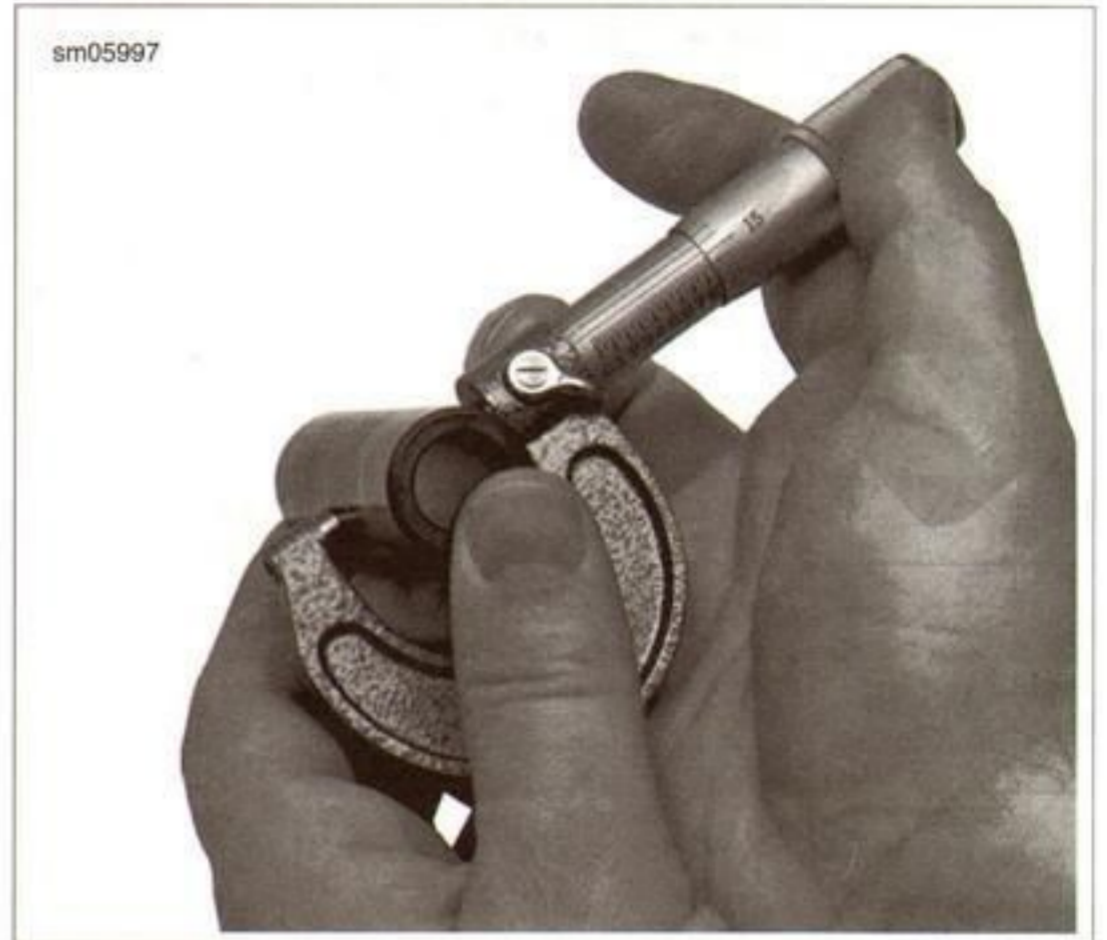

Figure 3-96. Piston Pin Diameter Measurement
- a. See Figure 3-96. Measure piston pin diameter and record value.